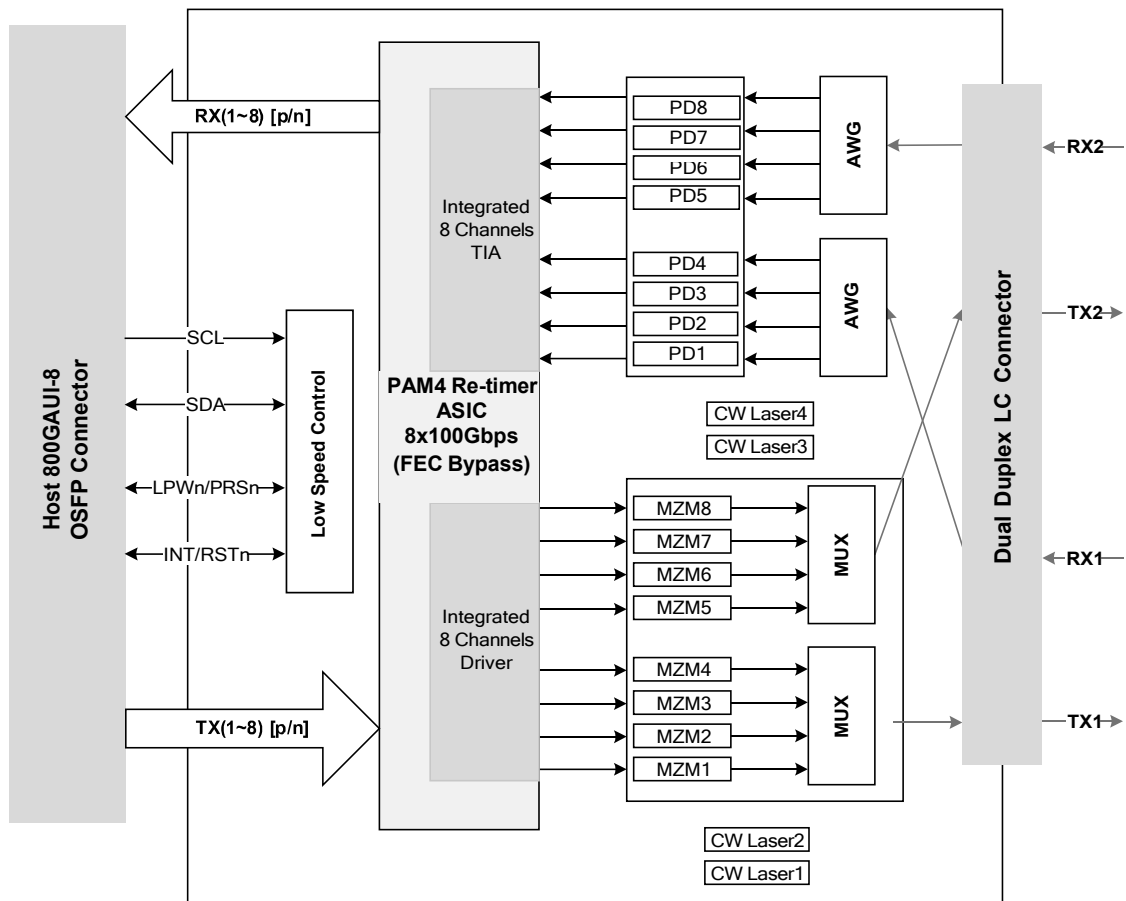

Figure 1: Transceiver Block Diagram
As shown in Figure 1, the transmitter path of the transceiver contains an 8x100Gbps 800GAUI-8 electrical input with Equalization (EQ) block, integrated retimer with high swing output, diagnostic monitors, single siphon PIC with 8 independent MZM modulator and 2 CWDM MUX and 4 CW CWDM lasers. The integrated electrical retimer converts 8 channels of 100 Gbps (PAM4) electrical input data to 8 channels of 100Gbps (PAM4) high output swing optical signals. The siphon PIC modulates 8 channels of optical signal and transfer to 2 optical port. The transmitter complies with EN 60825 and CDRH Class 1 human eye safety compliance.
As shown in Figure 1, the receiver path of the transceiver contains optical AWG, eight PIN photodiodes, integrated trans-impedance amplifiers (TIA), and 8x100G 800GAUI-8 compliant electrical output blocks. The PIN, AWG, integrated TIA and retimer converts 8 channels of 100Gbps (PAM4) parallel optical signals to 8 channels of 100Gbps (PAM4) electrical output data.